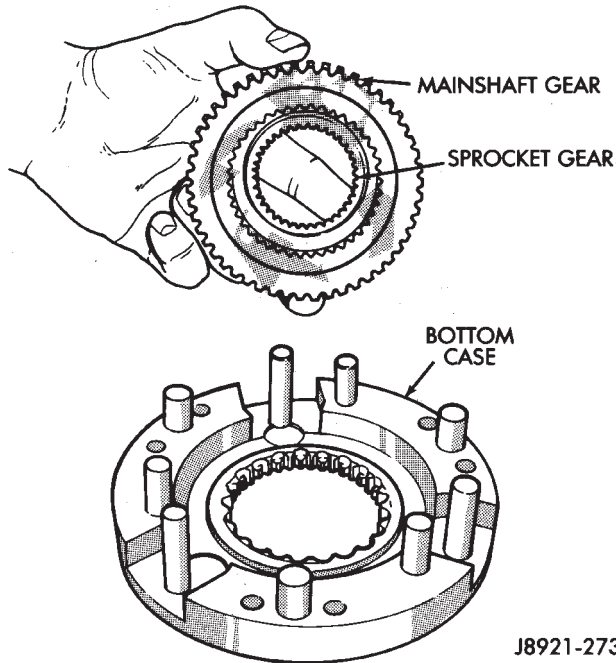

Fig. 47 Mainshaft and Sprocket Gear Removal
- (6) Remove mainshaft and sprocket gears from bottom case (Fig. 47). Note gear position for reference before separating them.